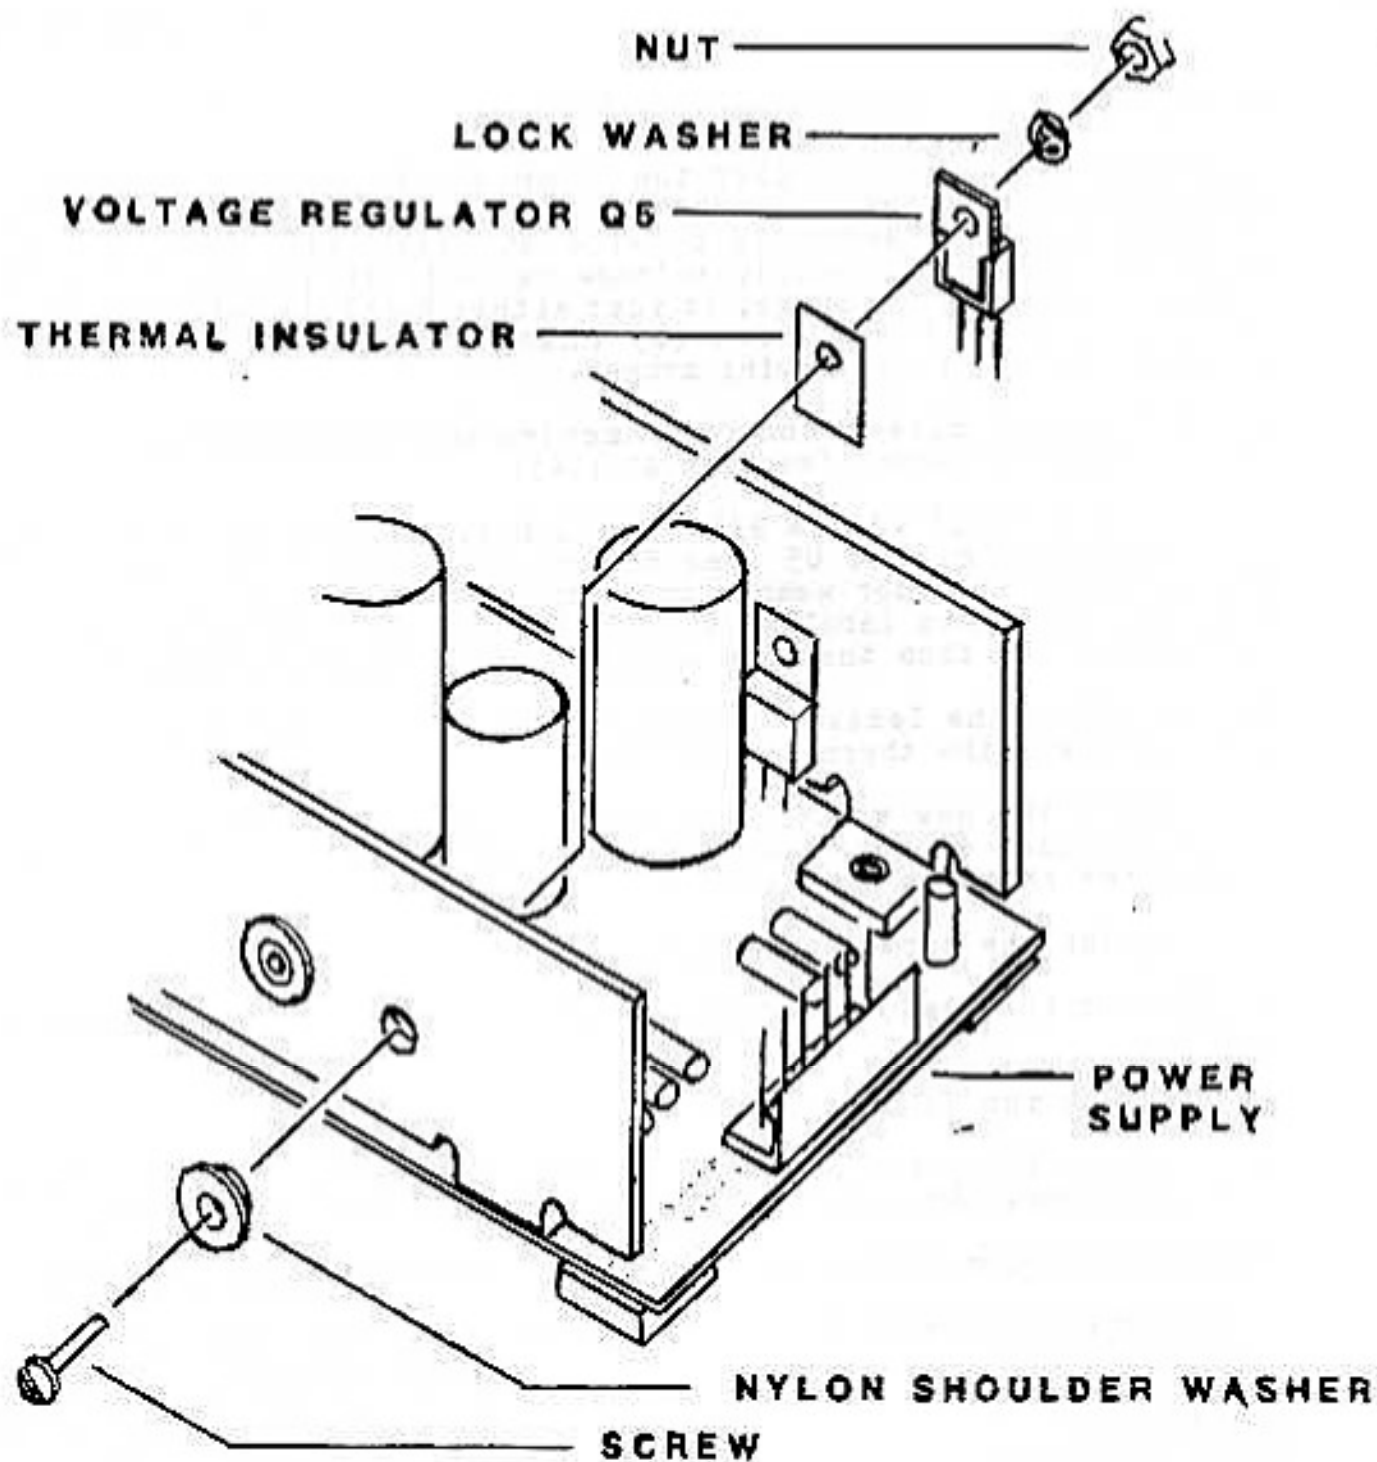

FIGURE 8
2. Using a drill with a 9/64" drill bit, drill out the rivet on the regulator marked Q5 (see Figure 8). This is the only one with a nylon shoulder washer on those power supplies which have 5 voltage regulators labelled Q1, Q2, Q3, Q4, Q5. The rivet should be drilled out from the side with the nylon shoulder washer.
4. Insert the new voltage regulator (7908) in Q5 along with the nylon shoulder washer, the thermal insulator, the screw, nut and lockwasher as shown in figure 8.